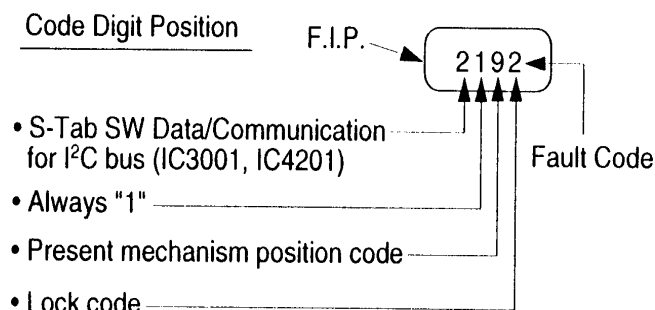

Fig. 21 - Simplified Fault Finding Data
2. The failure code will be displayed as shown in Fig. 21.